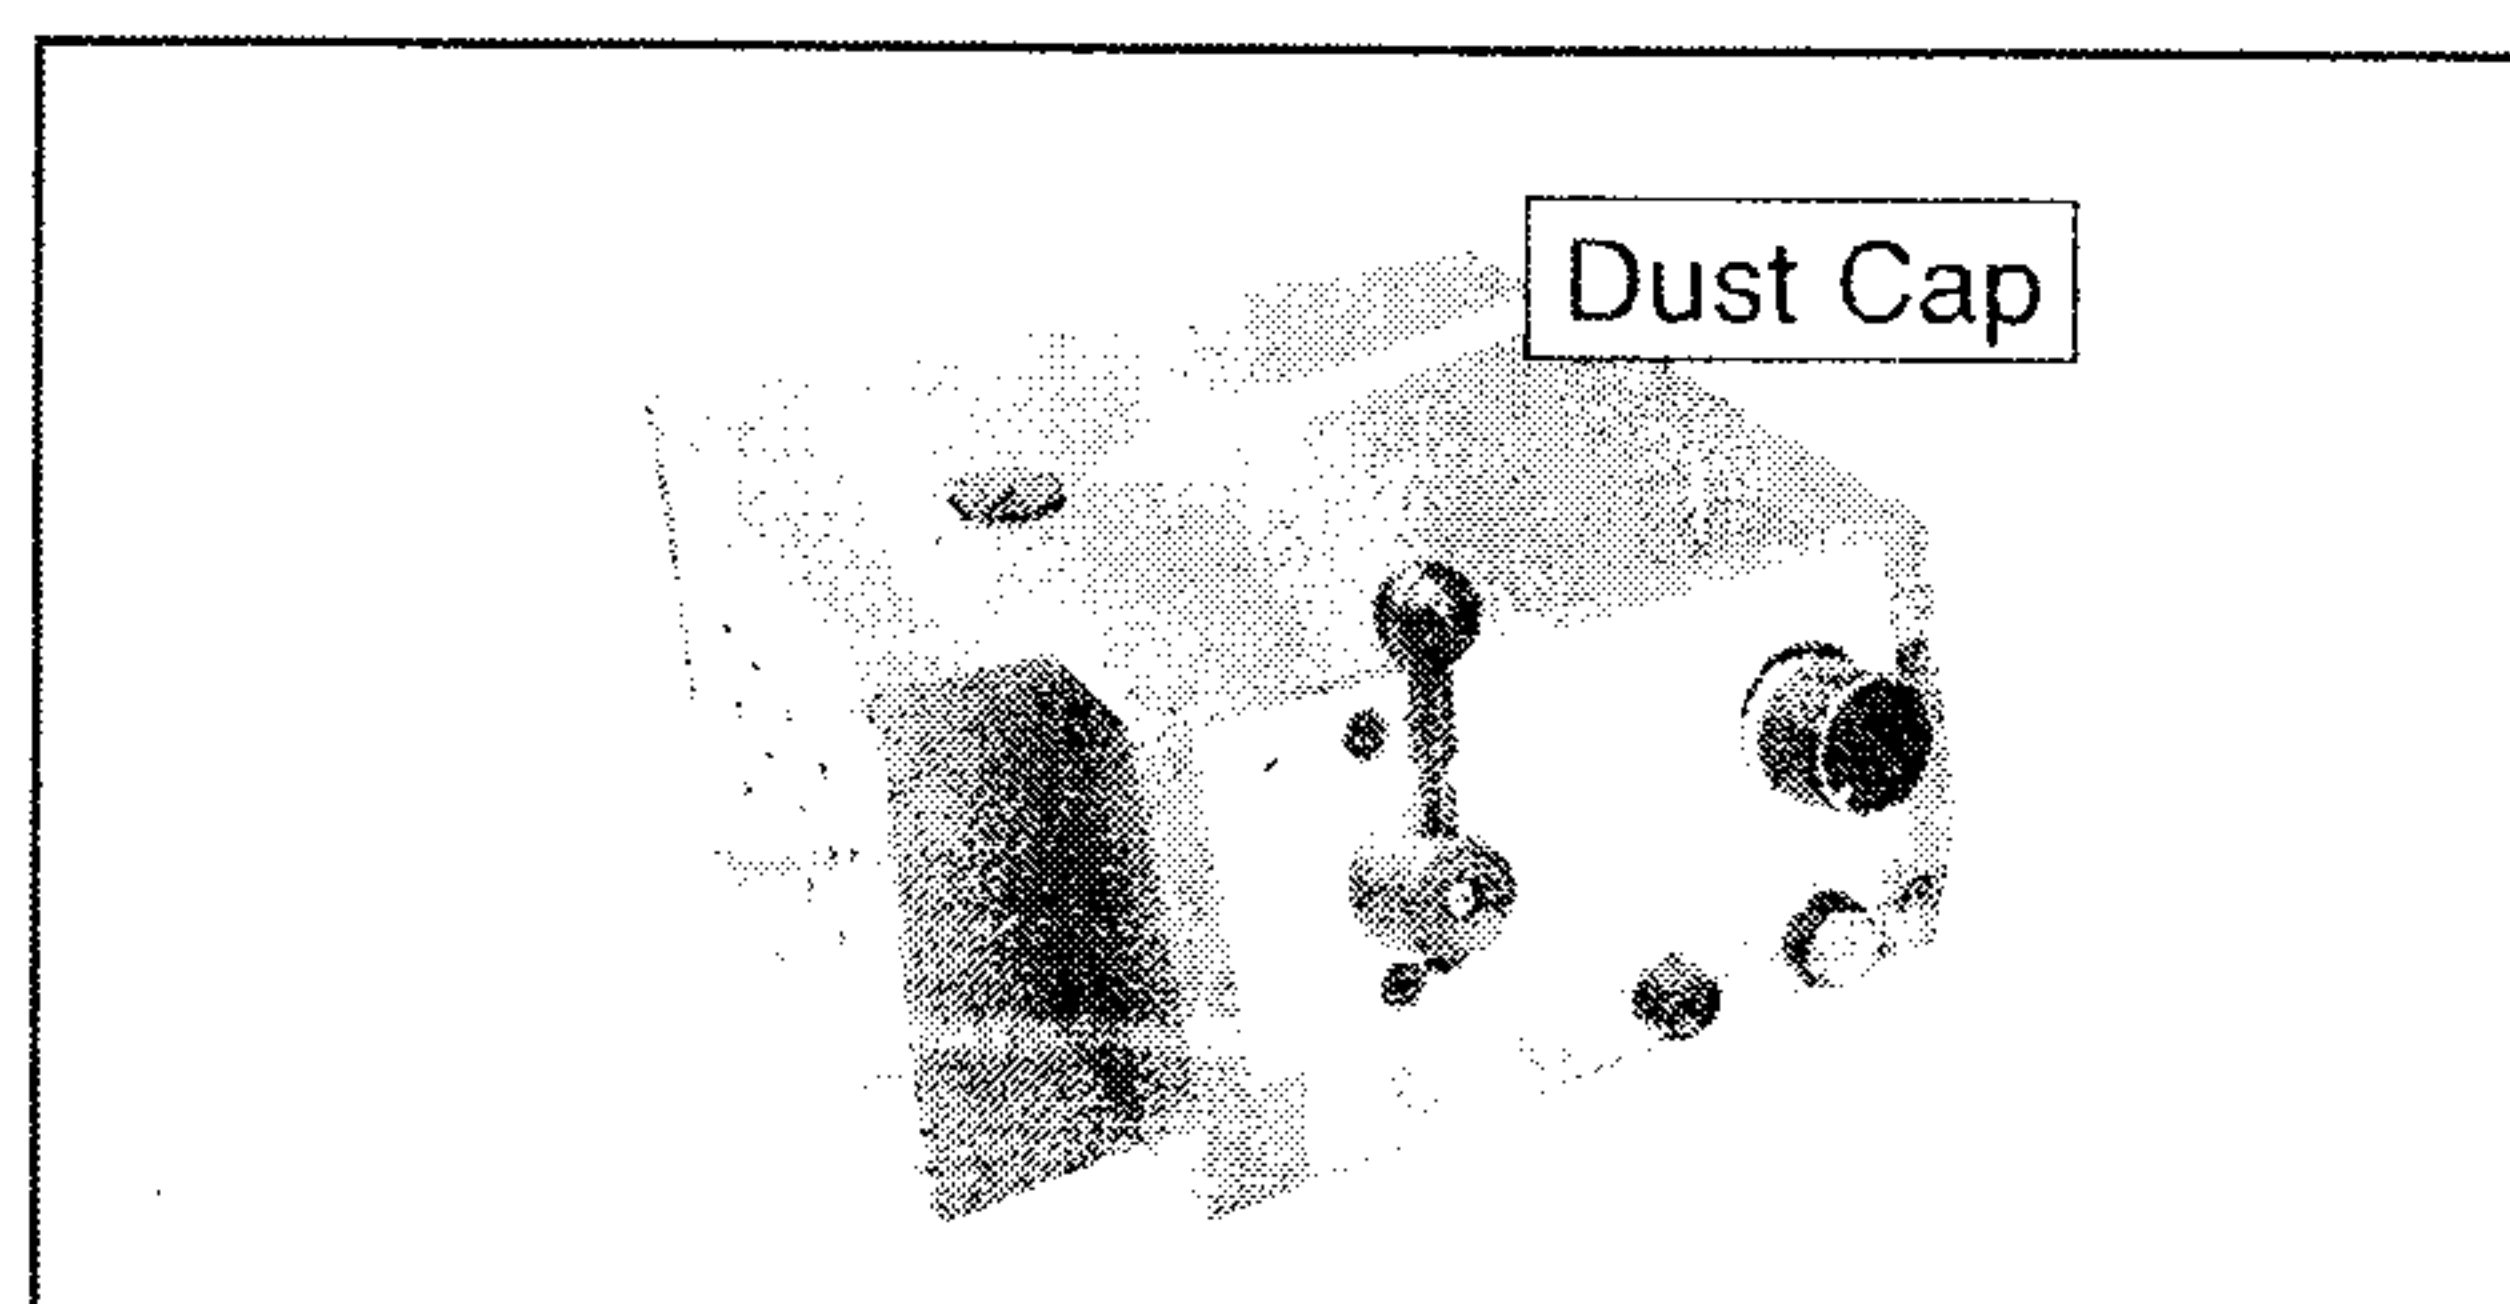

Figure 24. Top dust cap location.
2. Unscrew the power feed top dust cap (Figure 24).